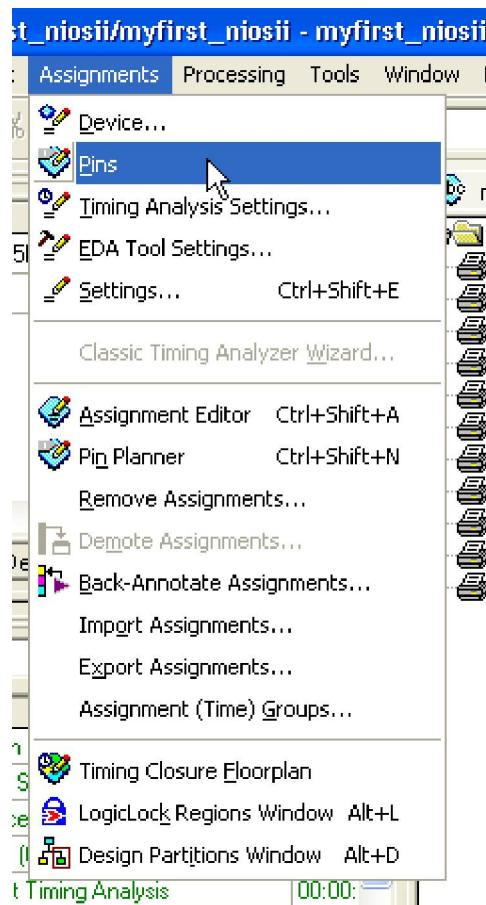

Figure 1-50 Pins menu
45. Choose **Assignments > Pins** to open pin planner as shown in Figure 1-50. Figure 1-51 show blank pins.